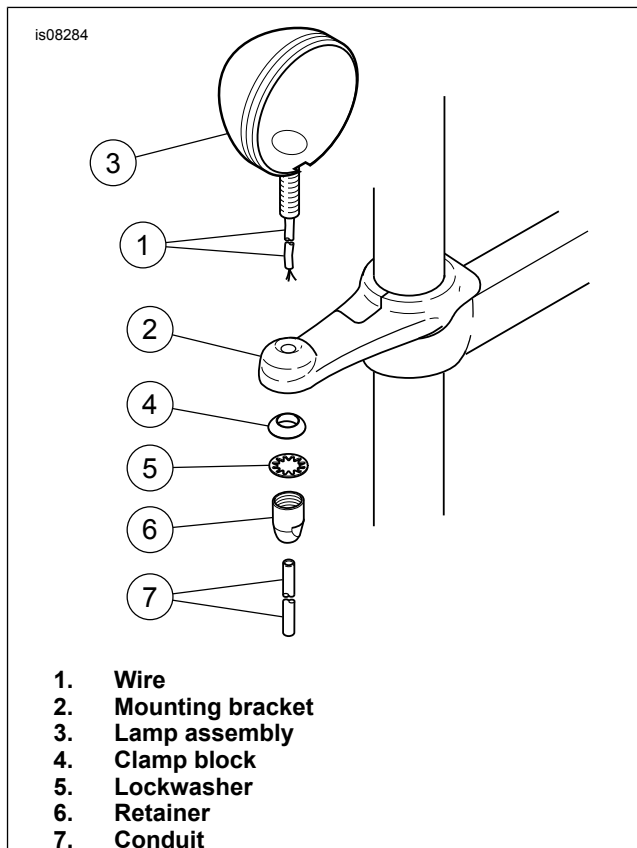

Figure 2. Install the Lamps (Right-Hand Side Shown)
5. See Figure 2. Route the lamp wire (1) through the hole in the mounting bracket (2), and secure the lamp (3) to the bracket using a clamp block (4), lockwasher (5) and retainer (6) from the kit. Tighten the retainer to 16-18 ft-lbs (22-24 Nm).